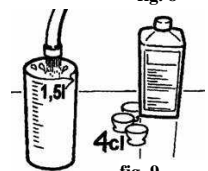

fig. 9
- Fill cream container with 1,5 l warm drinking water (max 50°C) and add 40 ml SANO-DESINFEKT-Plus. (fig. 9)